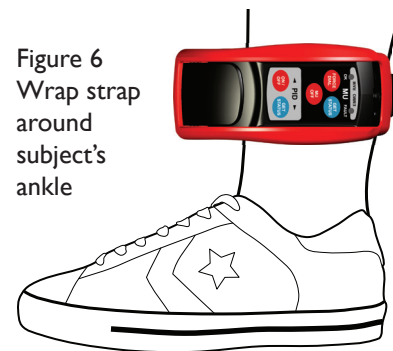

Figure 6
10. Holding the tool, wrap the strap and PID around the subject's ankle and click the PID into the Installation Tool. **(Figure 6)**